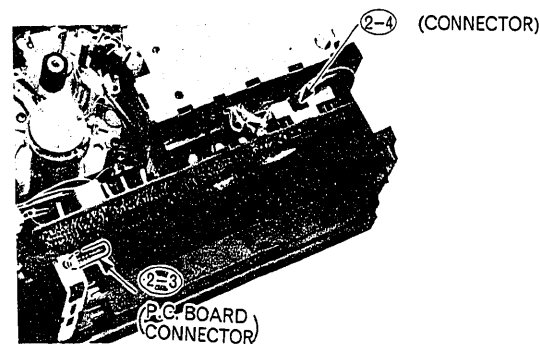

Fig. 11 Luminance/Chroma P.C. Board.
2. Luminance/Chroma P.C. Board (Fig. 11)